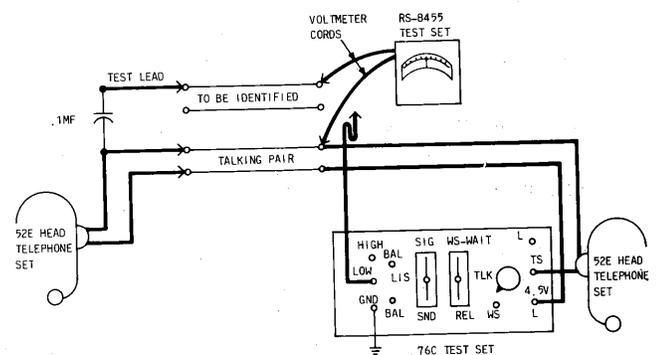

Fig. 6—Identifying Individual Conductors Using Voltmeter Method
2.10 A dc current ohmmeter such as provided with the KS-8455 (or 145A) test sets, may be used to identify the individual conductors in a long cable. Figure 6 shows a typical connection using a KS-8455 test set and a 76C test set.